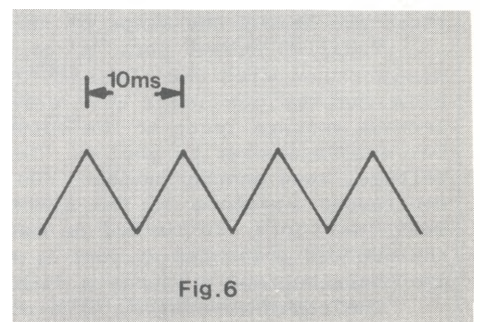

Fig.6
**Period and frequency.** After all that log stuff, let's get back to a real easy formula. Suppose you're measuring a signal with an oscilloscope, and according to the scope's time base, the period of the signal is 10 milliseconds (see figure 6). What is its frequency in Hertz? The formula we want is: